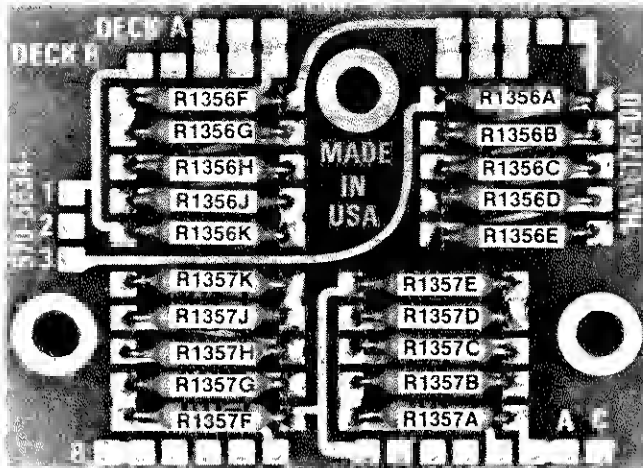

Fig. Option 1-2
1. The two front-panel CABLE DIELECTRIC pushbuttons have been replaced by two rotary DISTANCE CAL switches; the VAR adjustment has been deleted. To make these changes a PC Board (PC 9) has been added. See Fig. Option 1-2.